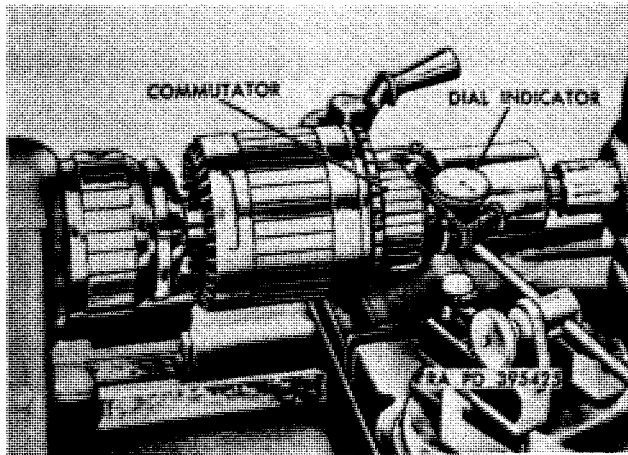

Figure 3-28. Checking armature eccentricity.
(4) Inspect armature shaft alignment and commutator for eccentricity to shaft with a lathe or V-blocks and a dial indicator (fig. 3-28). Check armature shaft for true alignment. If shaft runout exceeds 0.005-inch, commutator of armature shaft must be resurfaced provided it will not be cut below limits specified in repair and rebuild standards (para 3-31 *a*). If commutator requires cutting below limits specified, replace starter.
(3) *Checking armature eccentricity.* Set up a dial indicator gage and measure the runout of the commutator (fig. 3-28). Total runout should not exceed 0.003-inch.